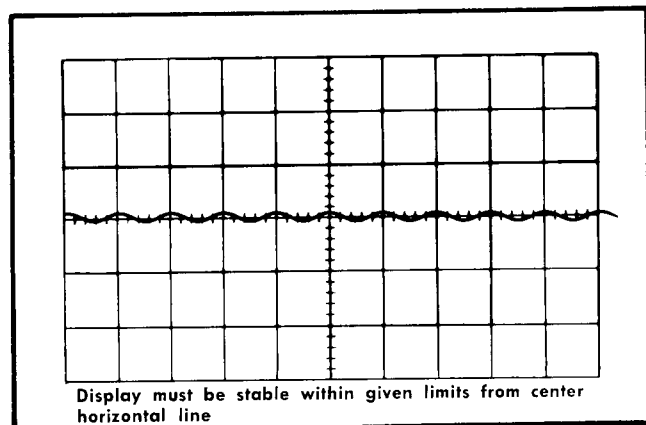

Fig. 5-12. Typical CRT display when checking trigger level centering.
h. CHECK—CRT display must be within one division of the center horizontal line (see Fig. 5-12). CH 1 light in both A and B Triggering must be on. This check indicates that the Trigger Preamp DC Level adjustment is set correctly.
k. CHECK—CRT display must be within two divisions of the center horizontal line (see Fig. 5-12). This check indicates that the Normal Trigger DC Level adjustment is set correctly.
n. CHECK—CRT display must be within two divisions of the center horizontal line (see Fig. 5-12). This check indicates that the B Trigger Level Center adjustment is set correctly.